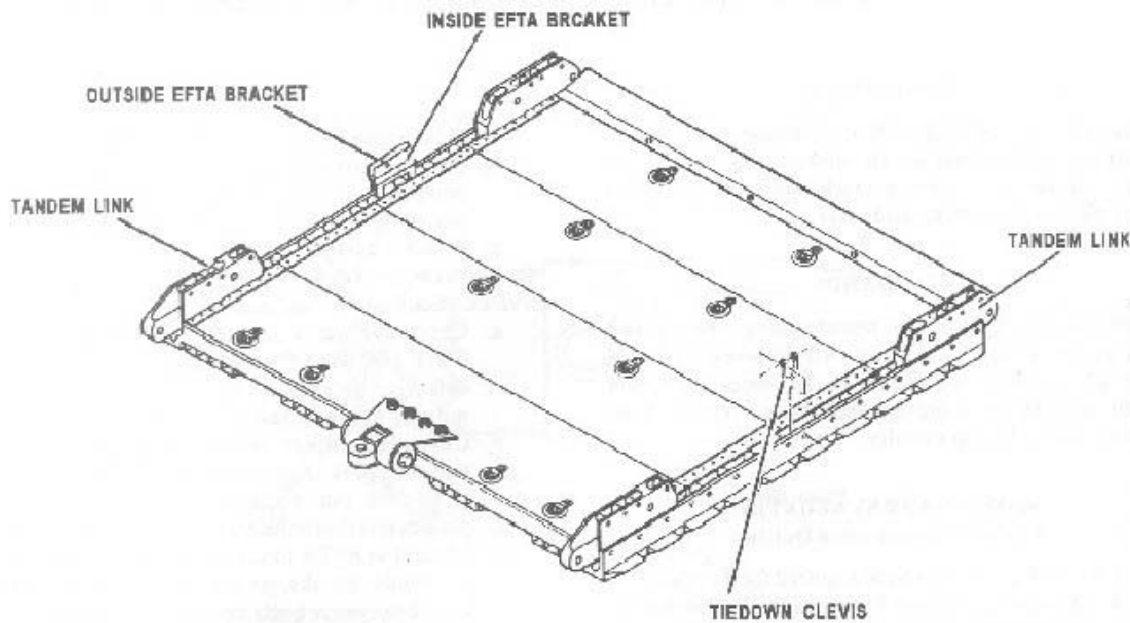

Figure 3-47
4. Perform preventive maintenance checks and services. (See Figures 3-47 and 3-48)